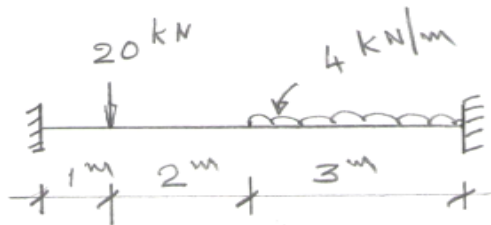

Fig.1
- (OR)
2. In the fixed beam AB shown in Fig.1, find the fixed end moments. [15M]